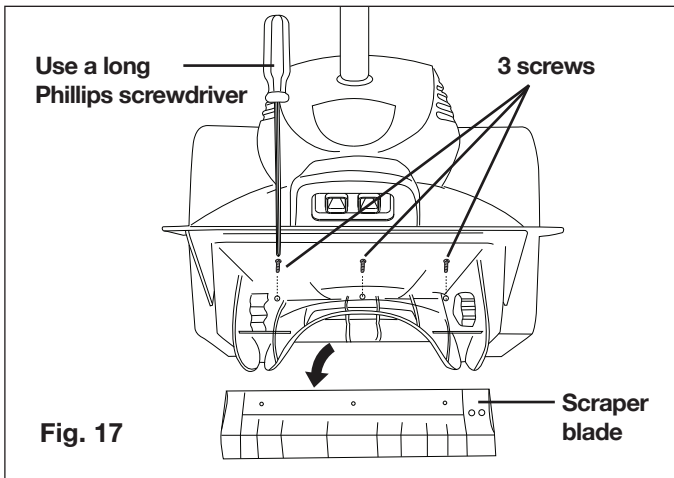

Fig. 17
1. Position the auger so that you can gain access to the three (3) Phillips head screws that secure the scraper blade to the base of the unit.
2. Using a long Phillips head screwdriver, remove the three (3) screws and the old scraper blade (Fig. 17).